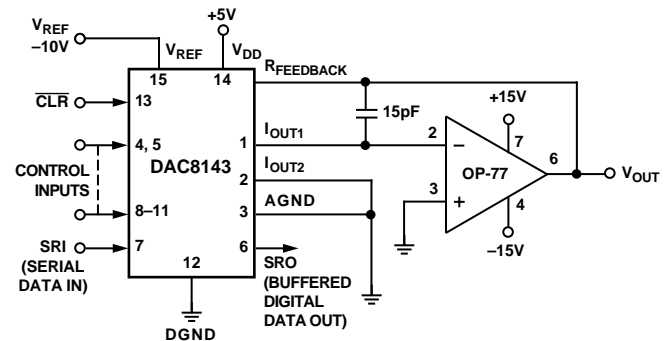

Figure 16. Unipolar Operation with High Accuracy Op Amp (2-Quadrant)
1. Phase compensation (see Figures 16 and 17).
The circuit shown in Figures 16 and 17 may be used with an ac or dc reference voltage. The circuit's output will range between 0 V and +10(4095/4096) V depending upon the digital input code. The relationship between the digital input and the analog output is shown in Table II. The V_{REF} voltage range is the maximum input voltage range of the op amp or ± 25 V, whichever is lowest.
¹Nominal full scale for the circuits of Figures 16 and 17 is given by
²Nominal LSB magnitude for the circuits of Figures 16 and 17 is given by
The transfer function for the DAC8143 connect in the multiplying mode as shown in Figures 16 and 17 is:
In most applications, linearity depends on the potential of I_{OUT1}, I_{OUT2}, and AGND (Pins 1, 2 and 3) being exactly equal to each other. In most applications, the DAC is connected to an external op amp with its noninverting input tied to ground (see Figures 16 and 17). The amplifier selected should have a low input bias current and low drift over temperature. The amplifier's input offset voltage should be nulled to less than $\pm 200 \mu\text{V}$ (less than 10% of 1 LSB).